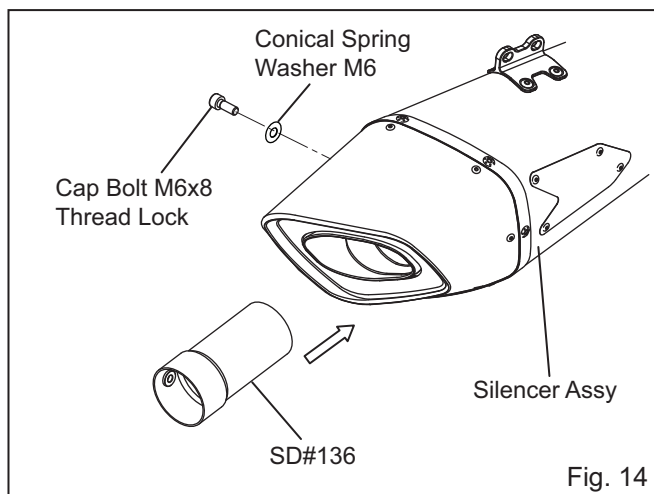

Fig. 14
- 13) Install SD#136 with Cap Bolt M6x8 Thread Lock and Conical Spring Washer M6 if necessary (See Fig. 14).